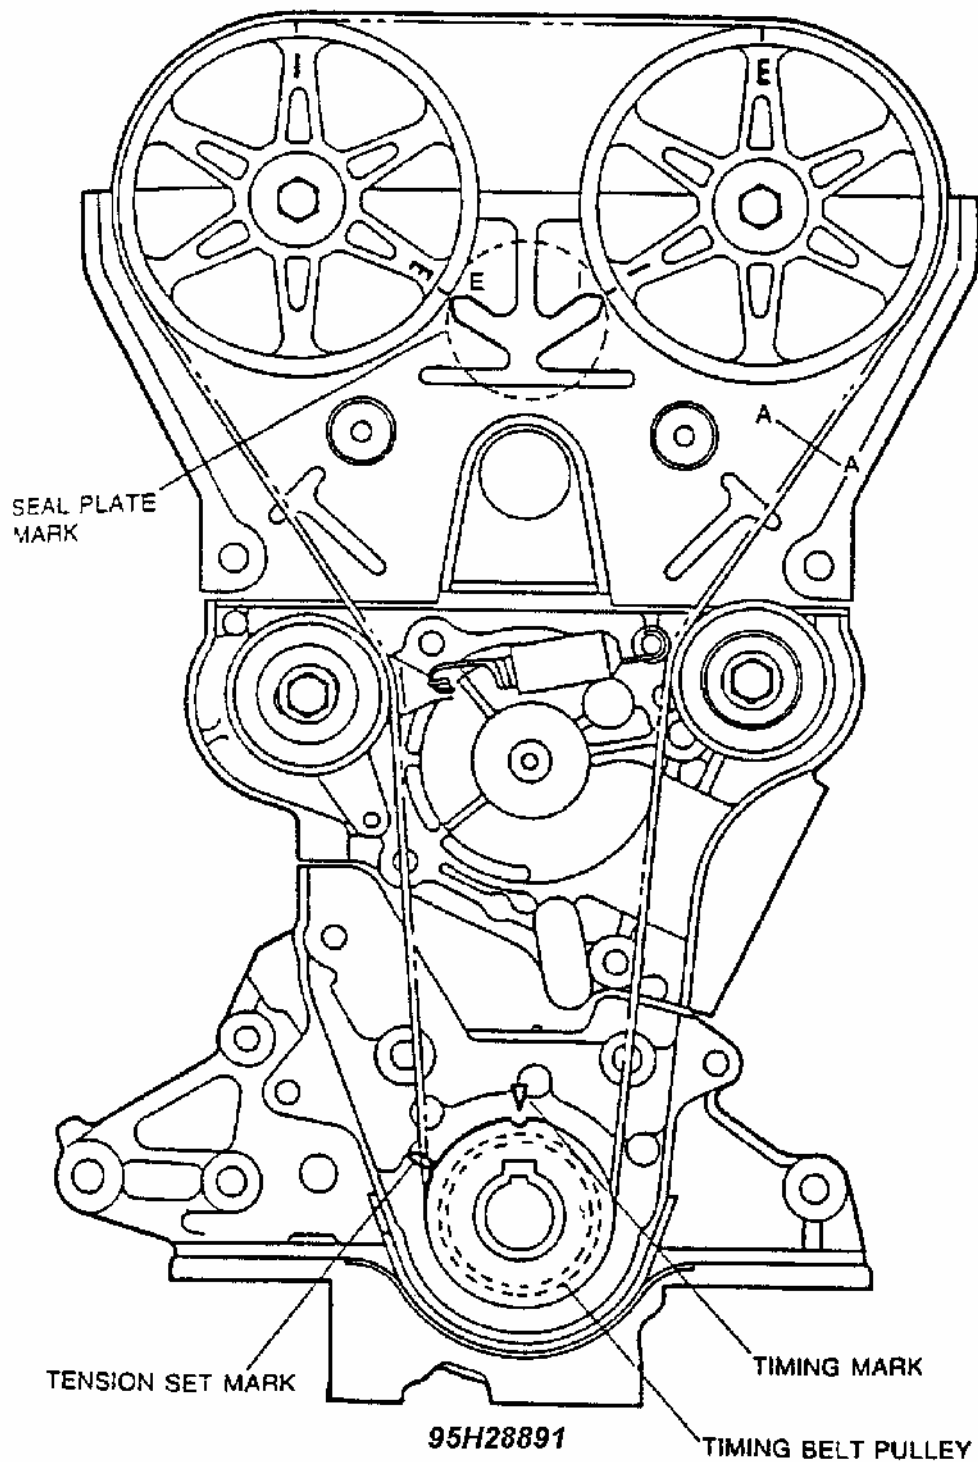
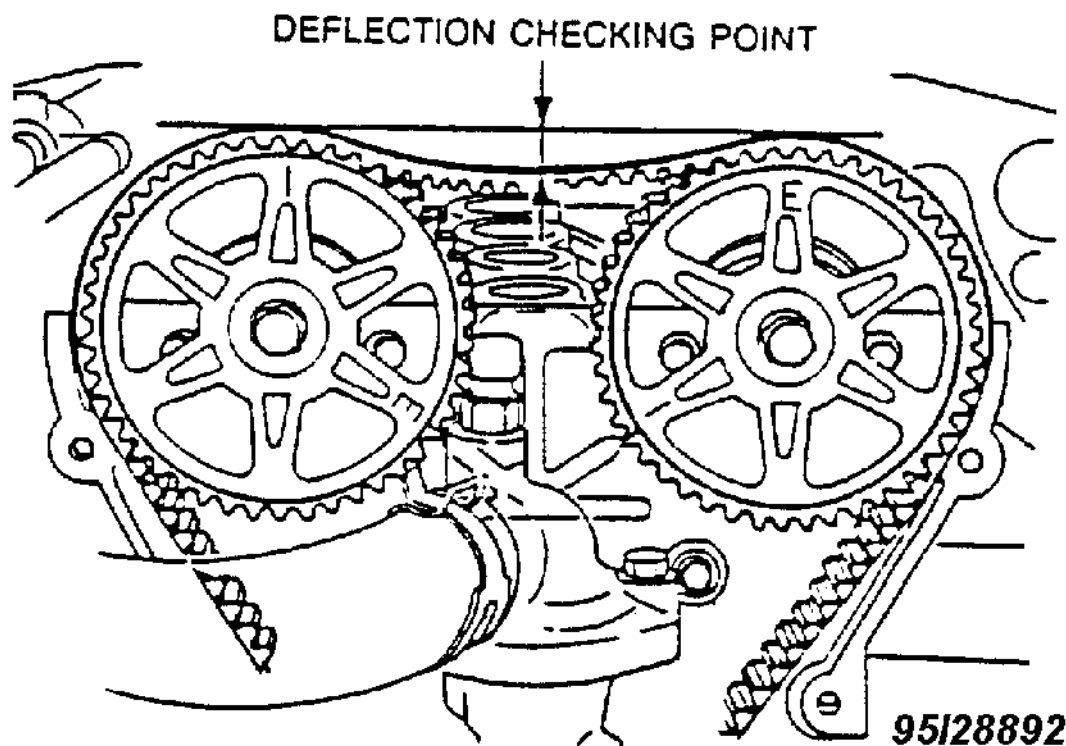

Fig. 6: Aligning Camshaft Timing Marks
Fig. 7: Measuring Timing Belt Deflection
3. Remove timing belt cover(s). If timing belt is to be reused, mark timing belt rotation direction. Align timing marks on camshaft sprocket(s). See **Fig. 6** and **Fig. 7** . Loosen timing belt tensioner lock bolt. Temporarily secure tensioner away from belt with spring fully expanded. Remove timing belt.
1. Position notch on crankshaft sprocket to 12 o'clock position (aligned with mark on oil pump). Align timing marks on camshaft sprocket(s). See **Fig. 6** and **Fig. 7** . Ensure crankshaft timing mark is at TDC. Install belt around crankshaft sprocket. Keeping belt pulled tight on right side (facing engine), route belt around camshaft sprocket(s).